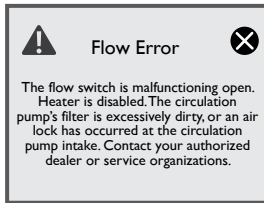

Figure 15.0a
There are a number of unique functions designed into your Jacuzzi spa to protect it from damage and/or to aid in troubleshooting. When this occurs the spa will notify you by showing the screen below, Figure 15.0a. A solid white light indicates that all operations are normal. A solid red light indicates that immediate attention is required to clear or fix an error code. Following is a listing of all the possible messages along with their meanings. **Always insist on genuine Jacuzzi replacement parts.**
**Note:** If you tap  the display will change to Figure 15.0b. The error icon  will remain on the screen as a reminder. If the error is not taken care of or fixed, the error display will reappear in 2 hours, Figure 15.0a.